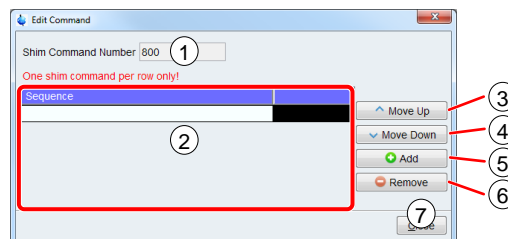

Figure 5-31: Edit Shim Command dialog
- (1) In Shim Command list the shim sequences connected to each *NMRPT* Shim Command Number (1) are shown.
- (2) **Edit Command**
Select a Shim Command list item (1) and click **Edit Command** (2) to edit the sequence of this Shim Command number. The **Edit Command** dialog (Figure 5-31 ) opens. The **Edit Command** button is disabled for default Shim Command numbers other than 800 to 824.
- (3) Click **Close** (3) to close Shim Command dialog.